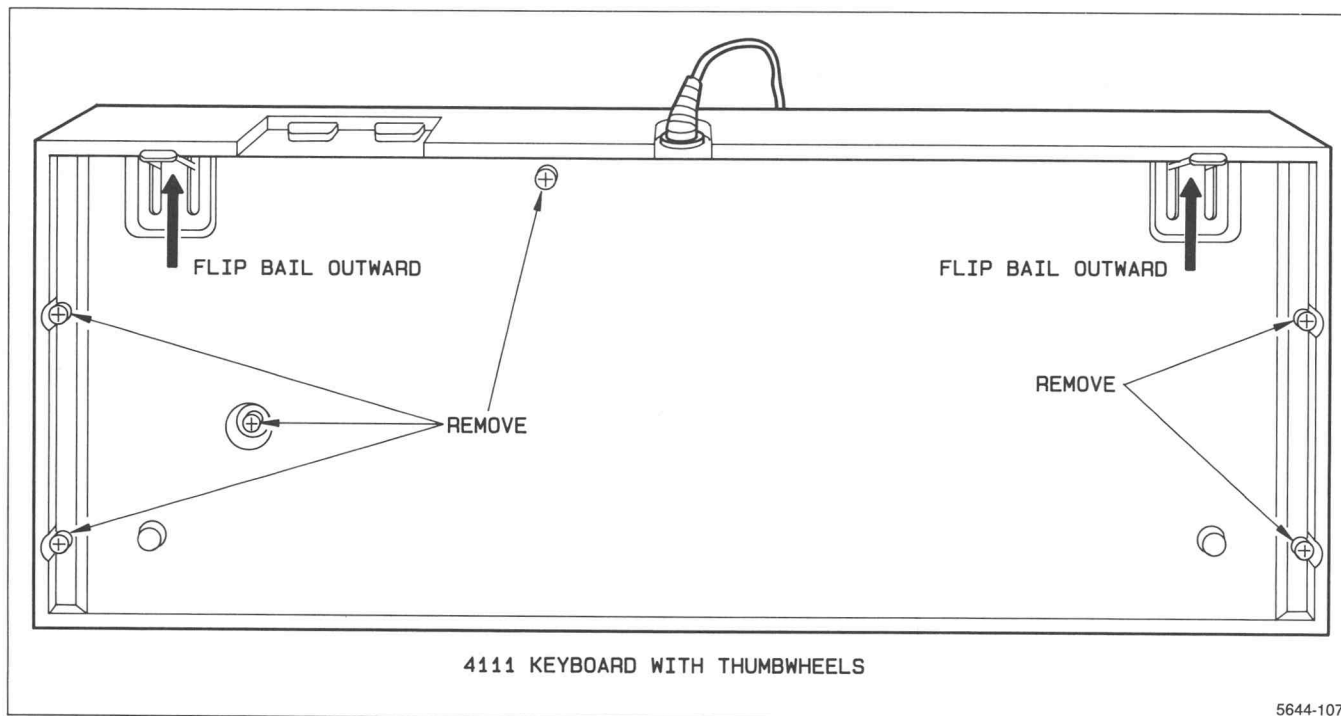

Figure 6-27. Keyboard Cover Screws and Bail Position.
1. Refer to Figure 6-27. To open, turn the keyboard over on a soft pad and remove the attaching six screws located in the bottom cover panel.
2. Then flip the elevating bails outward, as shown in Figure 6-27.